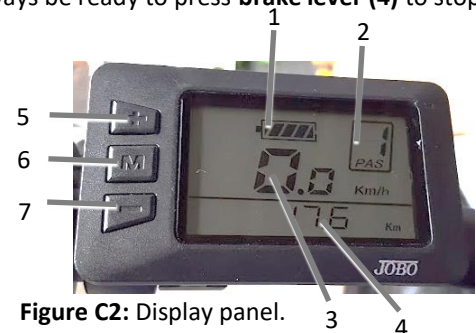

Figure C2: Display panel.
- In Pedal Assist mode (Figure C2), the motor is triggered when you pedal forward, and power assist will stop when you stop pedaling. In other words, power assist happens as long as you pedal. You don't need to pedal hard. All you need is to apply a light force to the pedals continuously to maintain continuous rotation. When you apply one of the brakes, power-assist will automatically stop, allowing the e-bike to slow down or stop. Power assist will turn itself off before the e-bike has reached the maximum speed of 25 km/h.
- Note that the Battery level indicators on the display (Figure C2, 1) will only show an estimate of the battery charge level when power is not being drawn from the battery (bike standing still). While using motor assistance voltage will decrease.
The display panel (Figure C2) controls a number of features on your ebike.
- Switch ON the bike and display (Figure C2, page 6)